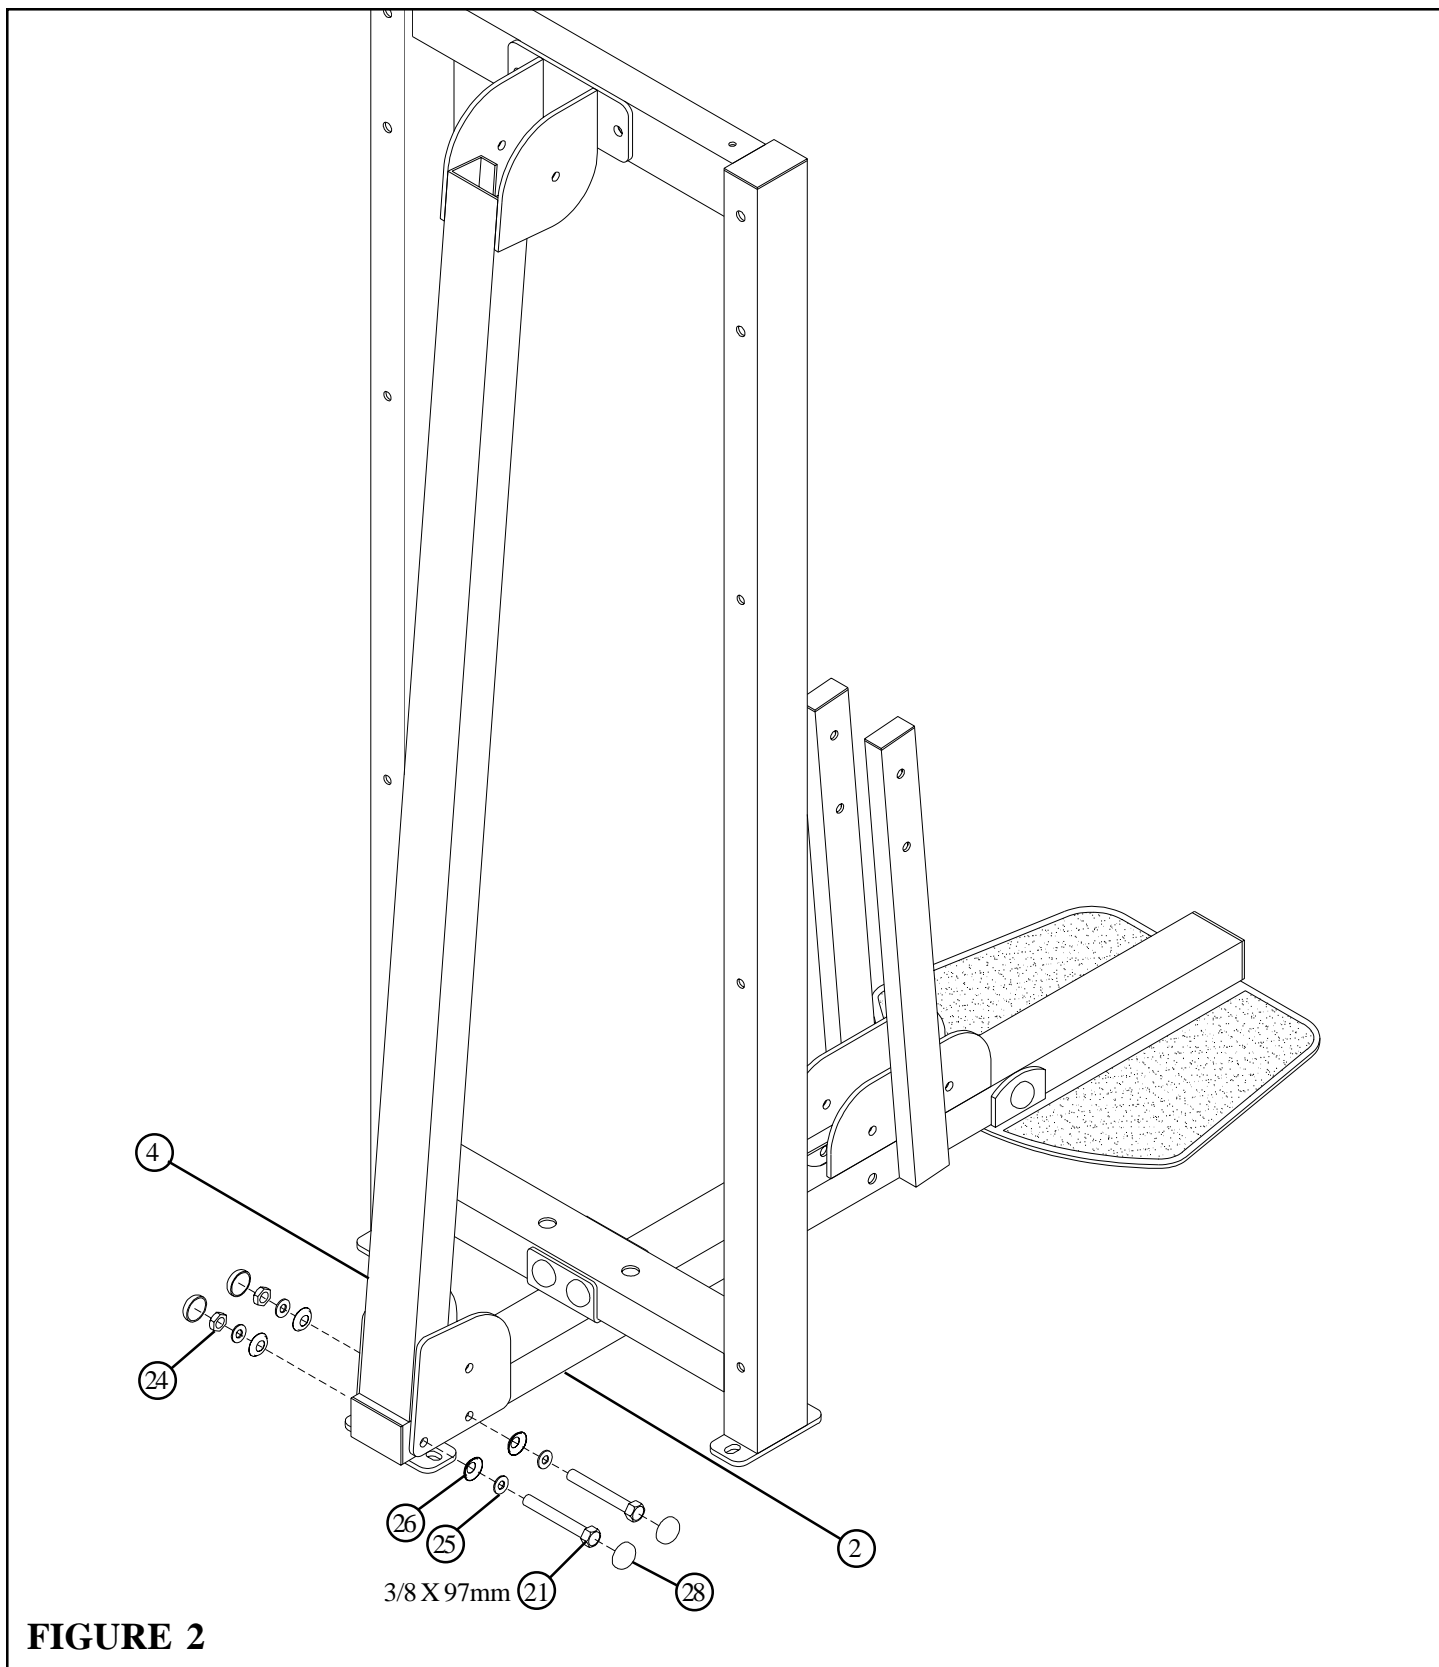

FIGURE 2
- **LOOSELY** assemble the REAR UPRIGHT (4) to the BASE FRAME (2) using four RH CAPS (28), two 3/8 X 97mm BOLTS (21), four 3/8" SAE WASHERS (25), four 3/8" RH WASHERS (26) and two 3/8" LOW HEIGHT LOCK NUTS (24) as shown in FIGURE 2.
- Route the BI/TRI CABLE (29) around one 4-1/2" PULLEY (7) and **SECURELY** assemble the 4-1/2" PULLEY (7) to the BRACKET on the HEAD PLATE (12) using four RH CAPS (28), two 3/8 X 43mm BOLTS (16), four 3/8" SAE WASHERS (25), four 3/8" RH WASHERS (26) and two 3/8" LOW HEIGHT LOCK NUTS (24) as shown in FIGURE 2. (**NOTE: Make sure CABLE runs over the retaining bolt.**)